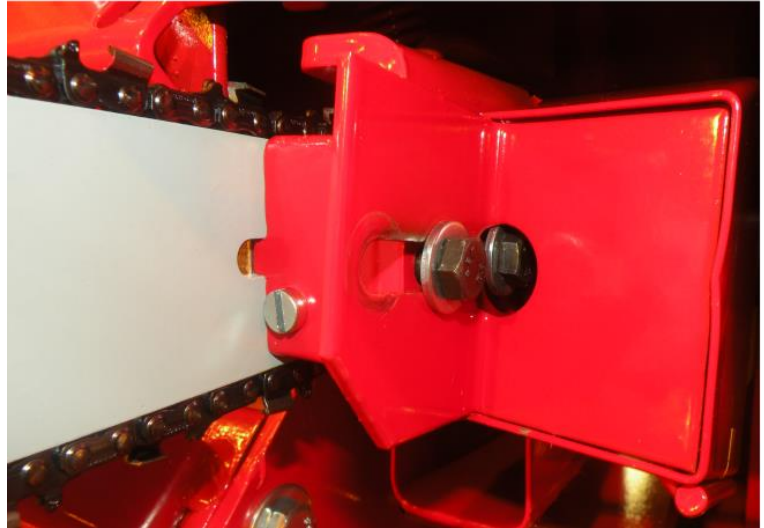

Figure 67.
3. Loosen the fastening bolts of the cutting flange, and pull off the cover of the blade chain belt as shown in Figure 67.
7. Re-install the belt cover as shown in Figure 67, and tighten the fastening bolts of the cutting flange.